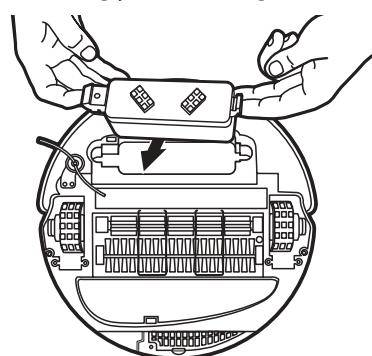

FIGURE 4: INSTALLING ROOMBA'S BATTERY PACK.
3. Guide the Battery Pack into the Battery Compartment using your index fingers as shown in Figure 4.